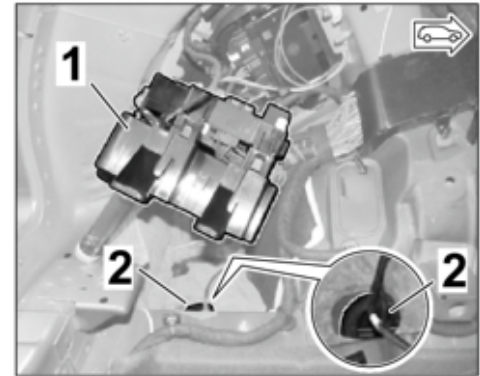

Figure 27
- 3.3.2 Swivel the fuse box with holder in left rear luggage compartment aside (⇒ Figure 27). ⇒ Workshop Manual '978409 Loosening and securing fuse box in the boot'